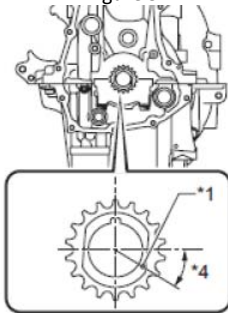

Figure 10
- TDC mark on the crankshaft pulley (*1) is aligned with the TDC mark inscribed on the front cover (see Figure 10)